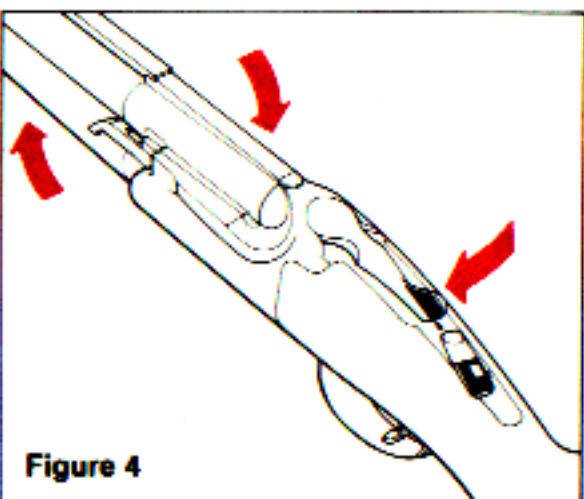

Figure 4
(4) Swing the muzzle end of the barrels upward, pivoting the rear end of the monobloc downward to seat in the receiver as shown in Figure 4. The barrel assembly is seated and locked into the receiver when the top lever snaps to its centered position.